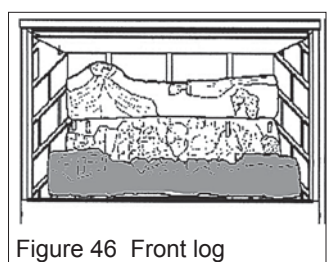

Figure 46 Front log
3. Place the front log at the front of the firebox. See figure 46.